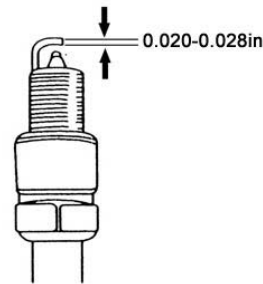

Figure 17 - Spark Plug Gap
4. Measure the spark plug electrode gap with a gauge. The gap should be 0.020-0.028 inch. (Figure17.)